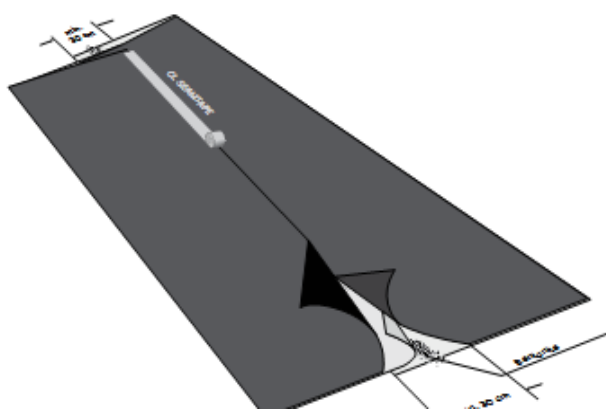

Fig. 10B: Longitudinal seams with Claymat CL seamtape
10. For applications where **Claymat CL or CLT** with a thick membrane has been specified **ABG** recommends welding the seams for a higher factor of safety against leakage. The minimum thickness of geomembrane which can be welded is 1.0mm. GBR-Cs with weldable geomembranes have longitudinal and end-of-panel margins which are not glued allowing for simple seam execution. The seams should be executed as per Figure 10B&11B but with geomembrane welding instead of using tape.